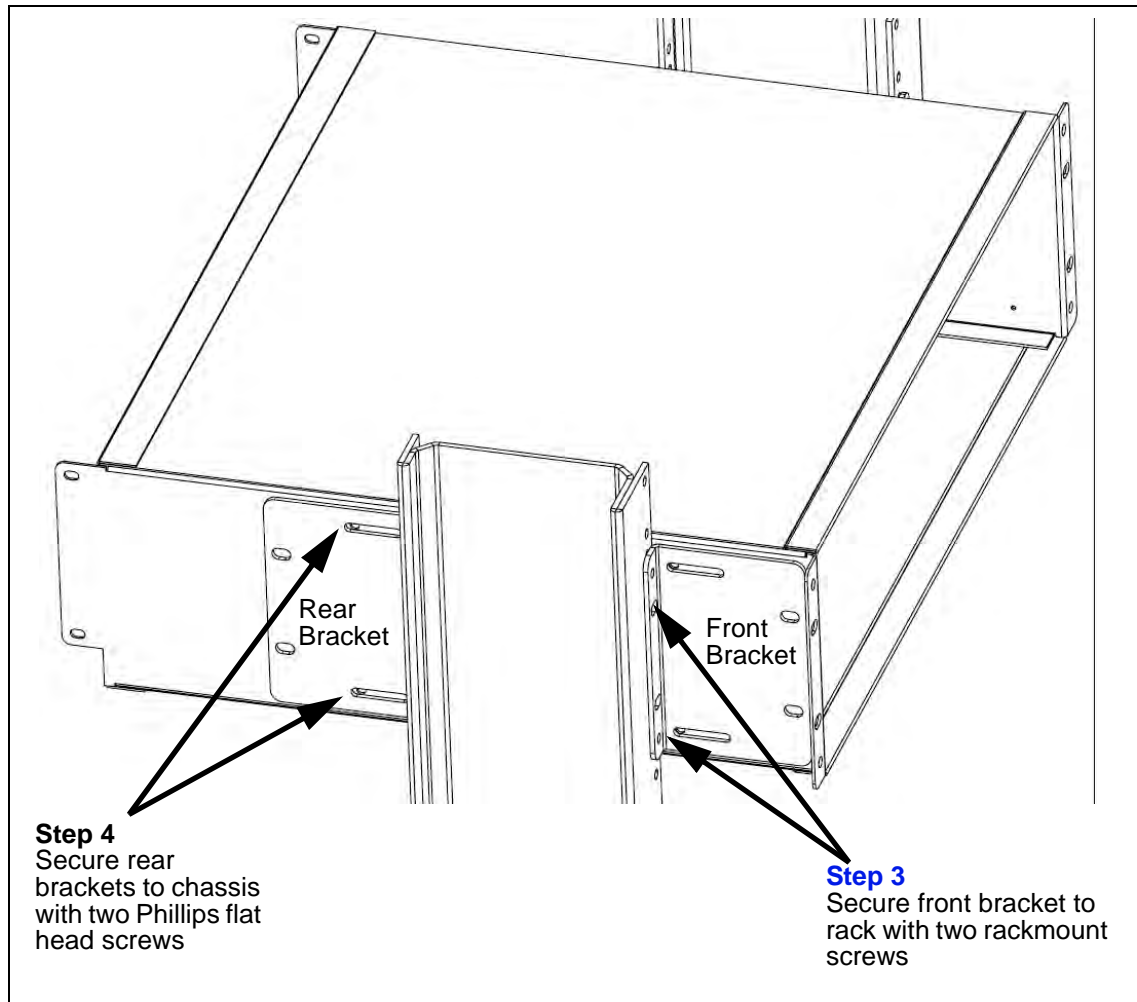

Figure 2.7 - Securing Front and Rear Brackets to Rack
3. Two People: Position the G10 probe in the rack and secure the front brackets to the front of the rack post with two rackmount screws (Figure 2.7).
4. Secure the rear brackets to the sides of the G10 chassis using two Phillips flat head screws (Figure 2.7).